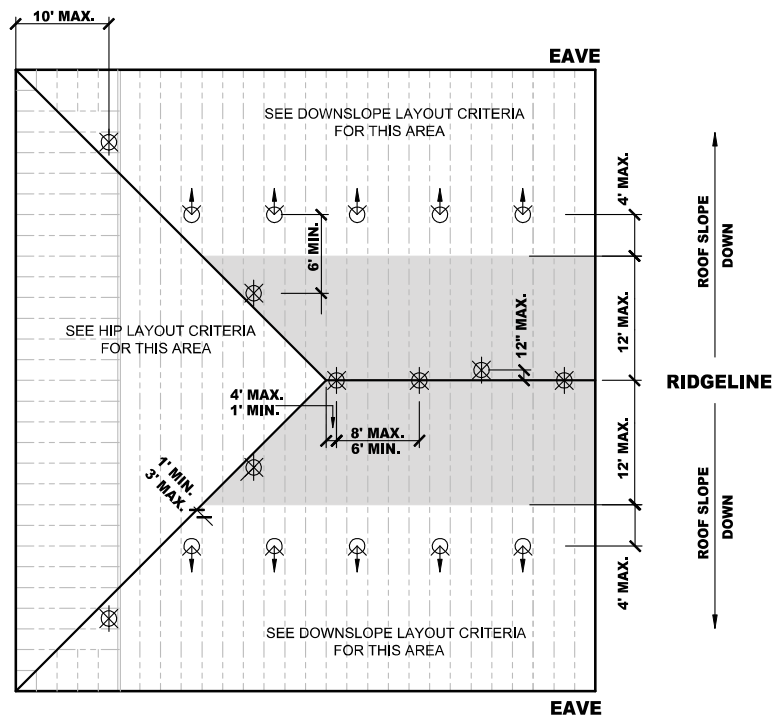

Figure 10: Ridgeline Layout Criteria
- This approach utilizes the FL-SA/RE sprinklers at the Ridgeline and downslope covering to the eave. (See Figure 10 for dimensional limitations)
- The maximum span of this approach is 72 ft or a half span of 36 ft. as measured horizontally. (See Figure 10 and Figure 11 for dimensional limitations)